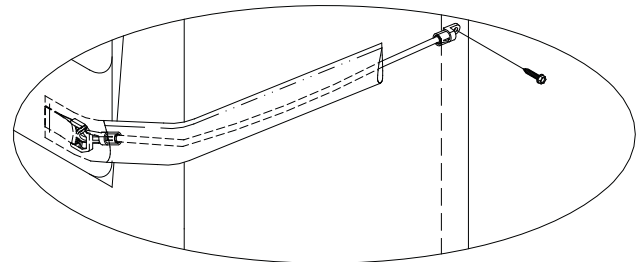

FIGURE 2
- Locate the windstrap attachment rings on each front end edge of the head curtain. (See Figure 2)
- Using the supplied screws attach the eyelet end of the windstrap to the backer board of the side member. There should be some slack in the windstrap after installation. (See Figure 2)